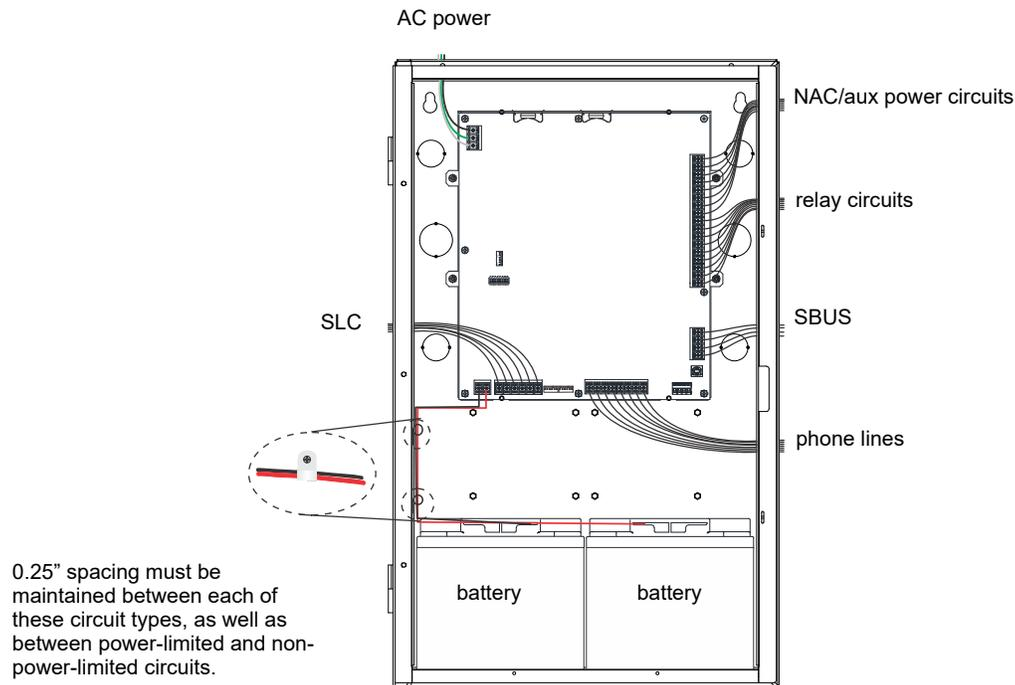

Figure 4.3 Wire Routing Example for 6808
- Route the wiring around the inside perimeter of the cabinet. It should not cross the circuit board where it could induce noise into the sensitive microelectronics or pick up unwanted RF noise from the high speed circuits. See Figure 4.3 for an example.
NOTE: Figure 4.3 is an example of how the wire connections can be routed. However, any other cabinet knock-outs (on either the main control panel or the RBB cabinet), that are not previously being used may be utilized to connect conduit between the two cabinets.